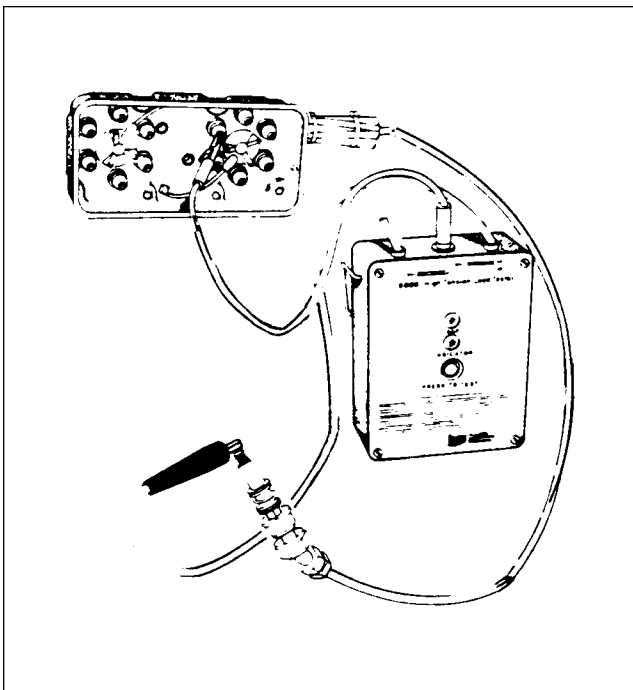

Figure 74-20. Checking Harness Lead Continuity
- a. Connect black test lead to contact spring and red lead to eyelet of same lead. (Refer to figure 74-20.)